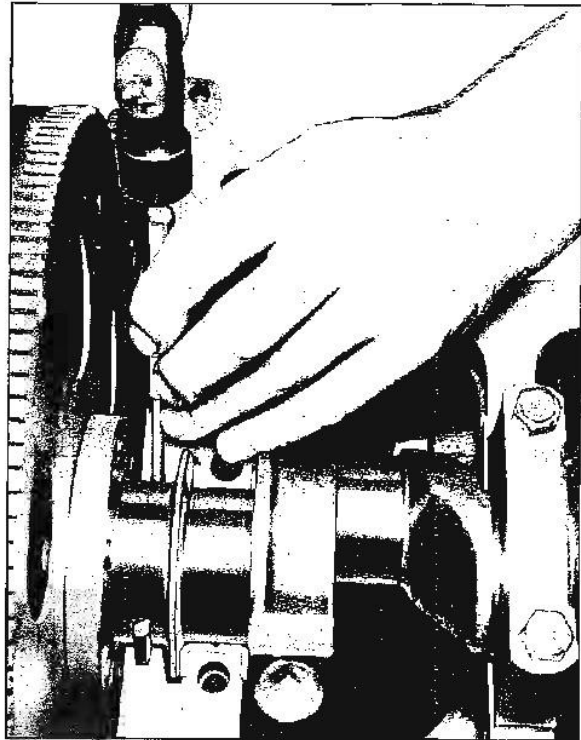

Fig. 6-51 Removing Oil Seal
6. To replace the upper half of the seal, use a small hammer and brass pin punch to tap one end of oil seal (Fig. 6-51) until it protrudes far enough to be removed with pliers. Push new seal into place.